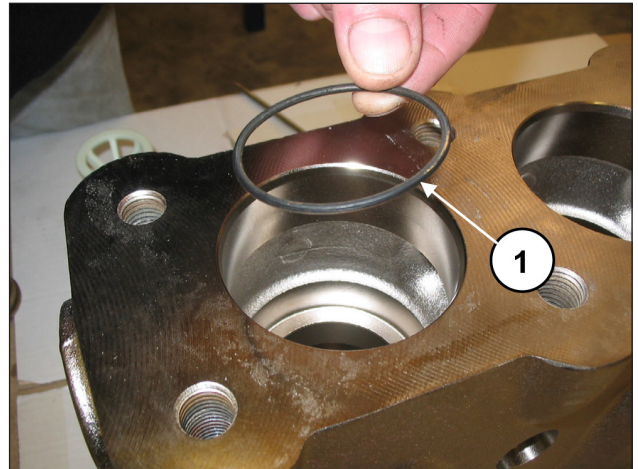

Fig. 120
Insert the O-ring, exploded view pos. 5 (pos. ①, Fig. 120).